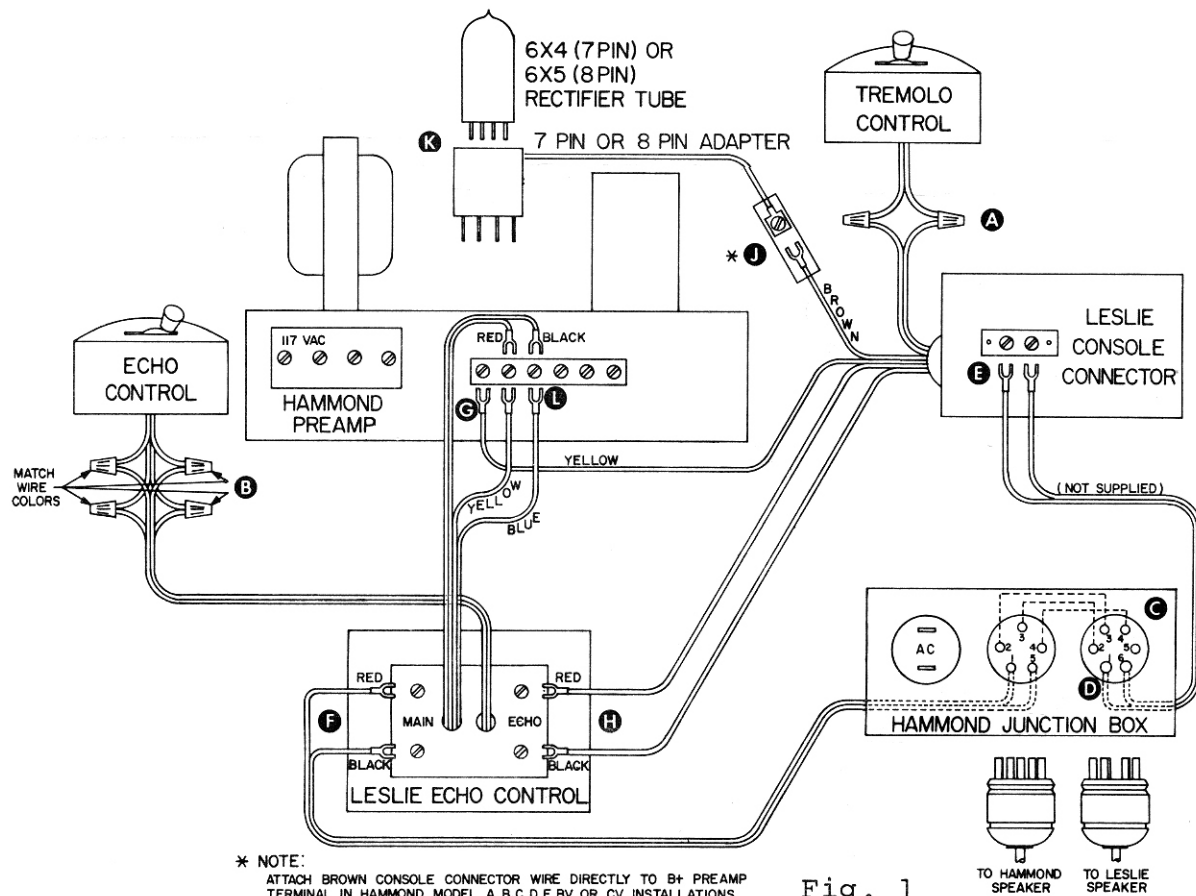

Fig. 1
5. Twist together stripped ends of tremolo control cable and AC type wires from console connector. Secure with two wire nuts provided in hardware package.(See "A" on Fig.1.)
6. Twist together the stripped ends of matching colored wires from echo switch and echo control chassis. Secure with four wire nuts from hardware package. MATCH WIRE COLORS (See "E" on Fig. 1.) NOTE: The proper echo control chassis wires to use are partially encased in a brown jacket and do not have wire lugs.
8. Instal6 contact socket from hardware package in one of the vacant cutouts in the Hammond junction box. Secure socket with socket retainer ring provided in hardware package. (See "C" on Fig. 1.)
9. Use jumper wires to connect AC and ground terminals from existing 5 contact Hammond external speaker socket to AC and ground terminals on the newly installed 6 contact socket. Insulate all connections with electrical tape. See Fig. 1 for correct wiring. Don't forget to run jumper wires through cap provided in hardware package before completing connections.
11. Connect ends of two wires (not supplied) to contacts land 6 at rear of 6 contact socket. (See "D" on Fig. 1.)
12. Strip opposite ends 3/8" and crimp two wire lugs from hardware package to them. Attach wires to the two screw terminals on the console connector.(See "E" on Fig.1.)
13. Detach the red and black wires from "G-G" terminals on Hammond preamp. Attach wires to MAIN terminals on echo control chassis. (See "F" on Fig. 1.) These are the signal wires for the Hammond external speaker, which is now switched on and off by the LESLIE echo control switch.
14. Connect yellow wire from console connector to GND terminal on Hammond preamplifier. (See "G" on Fig. 1.)
15. Connect red and black wires from console connector to ECHO terminals on echo controlchassis. (See "H" on Fig. 1.)
- b. HAMMOND B-2, C-2, RT-2 Installations: Attach brown wire from console connector to black wire from 8 pin B+ adapter supplied. (See "J" on Fig. 1.) Cover connection with electrical tape. Remove the 6X5 rectifier tube from its preamp socket. Plug 8 pin adapter into this socket; then plug 6X5 rectifier tube into the adapter. (See "K" on Fig. 1.)
- c. HAMMOND B-3, C-3, RT3 Installations: Attach brown wire from console connector to black wire of the 7 pin miniature B+ adapter supplied. (See "J" on Fig. 1.) Insulate connection with electrical tape. Remove the 6X4 rectifier tube from its preamp socket. Plug 7 pin adapter into this socket; then plug 6X4 rectifier tube into the adapter.(See "K" on Fig.1.)
17. Attach red, black, yellow, and blue wires from echo control chassis to "G-G" terminals on Hammond preamplifier. (See "L" on Fig. 1.)
18. Connect speaker cables to the external speakers and the Hammond junction box.(See "M" on Fig.1.)